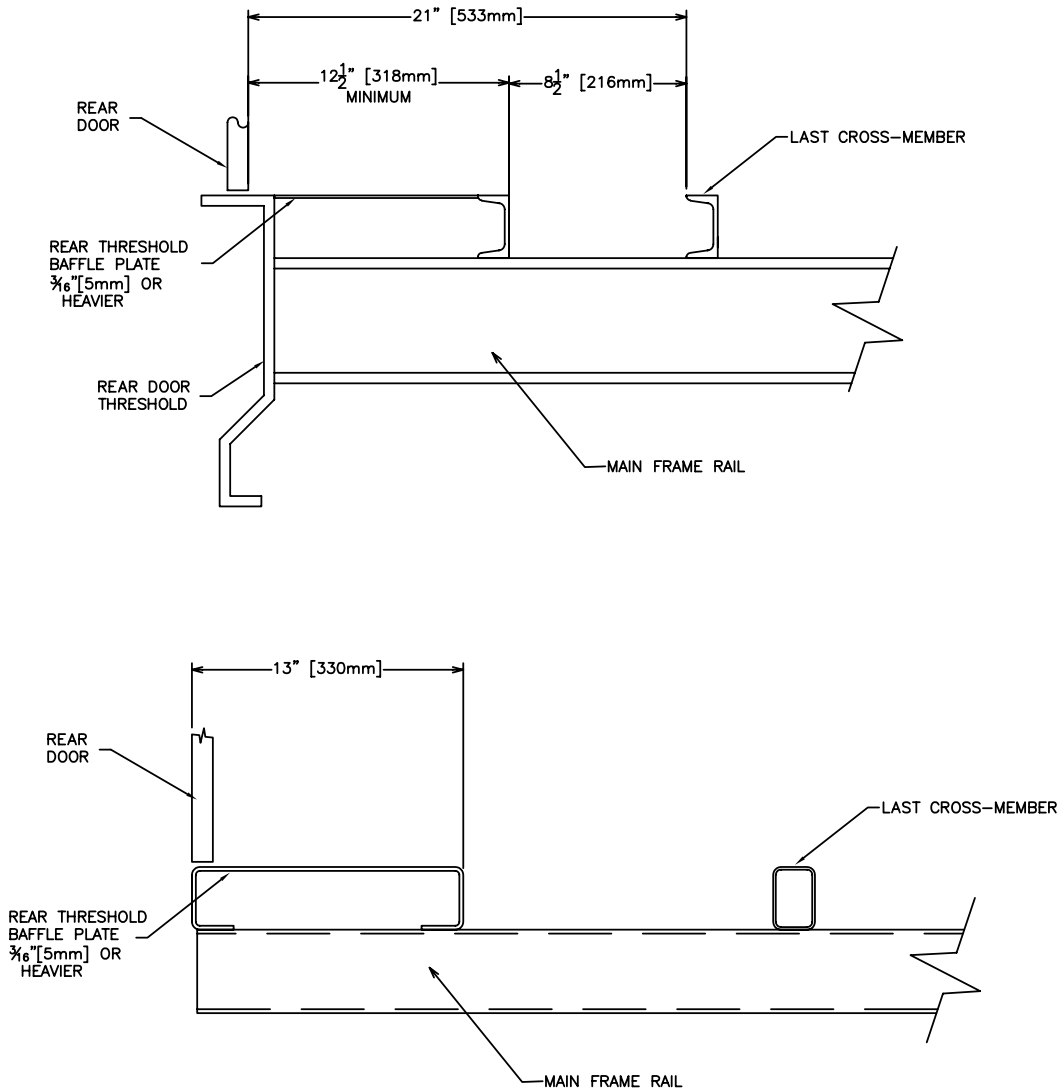

Figure 8
1. Determine the dimensions of the baffle plate (Figure 7). The baffle plate needs to be a single sheet that extends across the entire width of the trailer. (See Figure 8). The top of the baffle plate must be level with the top of the cross members and is welded to the inside of the trailer threshold. The thickness of the plate depends on the type of load. For lightweight materials (e.g. saw dust), use 3/16" [5mm] mild steel plate. Thicker plate is recommended for heavy, abrasive materials (e.g. solid waste). For fine materials, the baffle plate can be bent down at an angle connecting to the nearest cross-member to prevent material from sifting through. An open slot is allowed to let small amounts of fine material drop through so that material will not build up underneath the slats. This prevents buildup from lifting the slats. For applications with coarse materials, the baffle plate may be bent straight down.